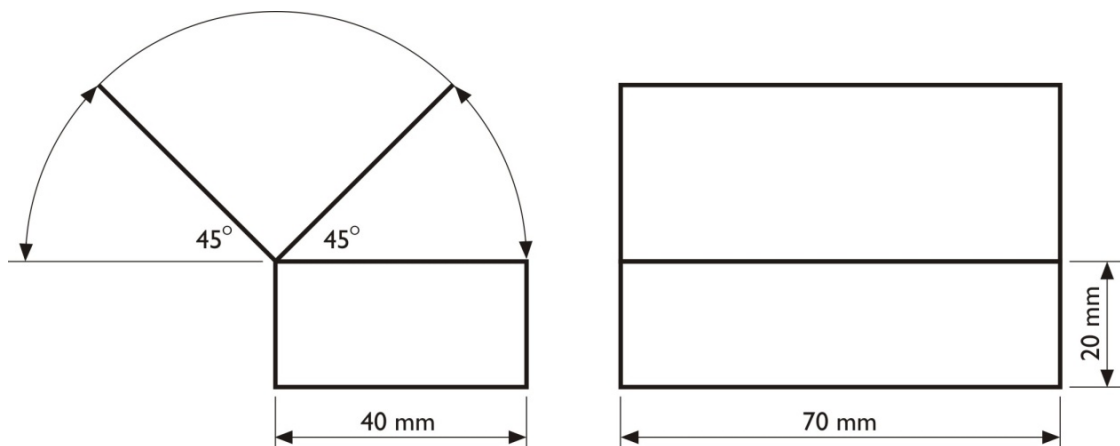

Figure 4.2 A Box with two lids dimensions
1. To create the lid of the box, project lines from points F and H, the pivot or hinge points, to NVP 45° Up. Refer to Figure 4.2 and 4.10 for information.
2. To create the other lid of the box, project lines from points F and H, the pivot or hinge points, to NVP 45° Down. Refer to Figure 4.2 and 4.10 for information.